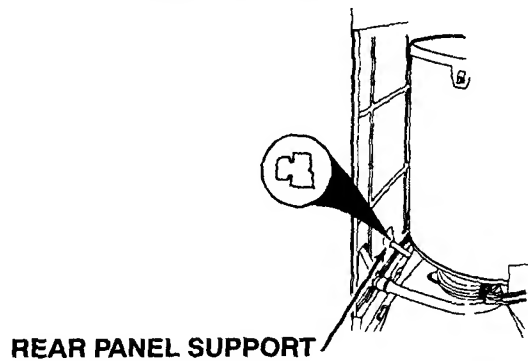

Fig. 53
5. The rear panel can be tilted back for additional access to components at rear of machine by twisting the rear panel support 90°, and then tilting the rear panel back. (Fig. 53)